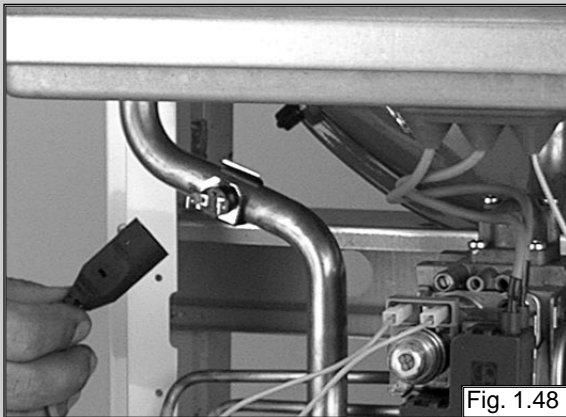

Fig. 1.48
1. Remove the electrical connection from the overheat thermostat (see fig. 1.48);
It is possible to by-pass the time clock in the event of failure by simply unplugging the electrical connection from the P.C.B. (see fig. 1.48). This will revert control of the central heating to the room stat connection on the reverse of the control panel.